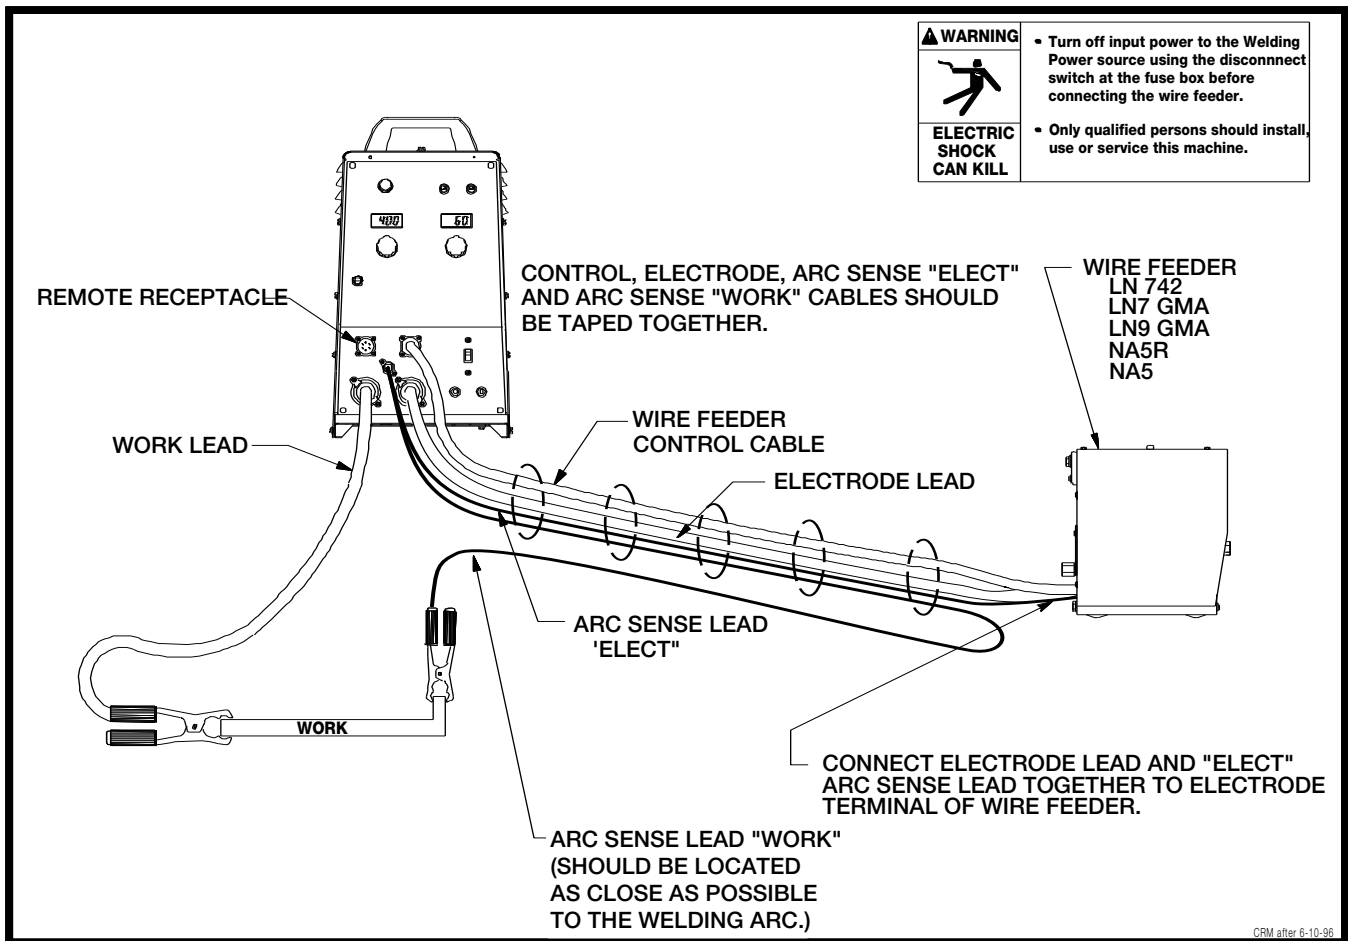

FIGURE C.2 LN-742 to STT II CONNECTION
The LN-742 or STT-10 is the recommended wire feeder for use with the INVERTEC STT II (CE). Refer to the LN-742 or STT-10 Operator Manual for Wire Feed Operation. Refer to Figure C.2 or C.3 and follow the instructions below to connect the LN-742 or STT-10.